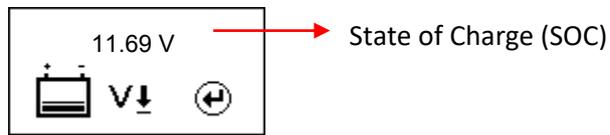

Fig.31
1. Batteries that had been left idle for long periods can still be tested with this analyser. To perform the test, just clamp the analyser clips onto the battery terminals and it will display the screen (Fig.31) as shown if its voltage falls below the normal 12.0 volts.